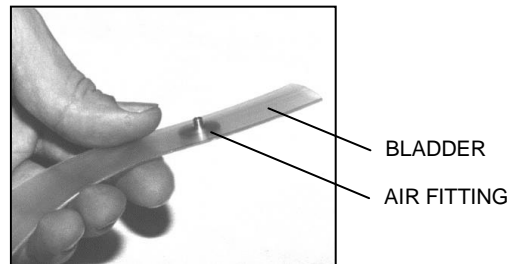

Fig. 5
3. Insert the air fitting into the hole from the inside of the bladder. (Fig. 5)